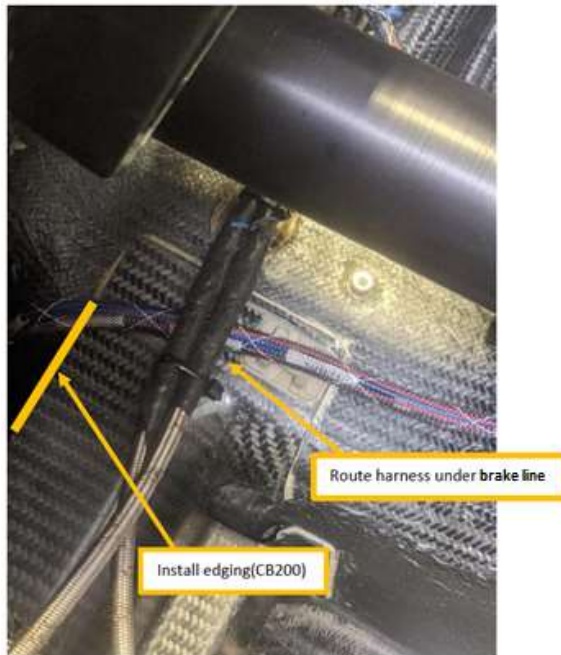

Figure 10. Harness routing and edging
15. (1.0 config only) Install edging (MS21266-1N Grommet Edging)) with CB200 at location shown in **Figure 10** and route harness as shown.